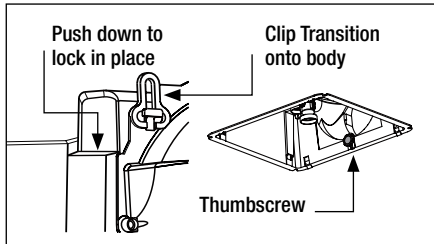

Fig. 24
4. Connect Transition to Tastic body and secure with thumbscrew as shown in Fig 24.